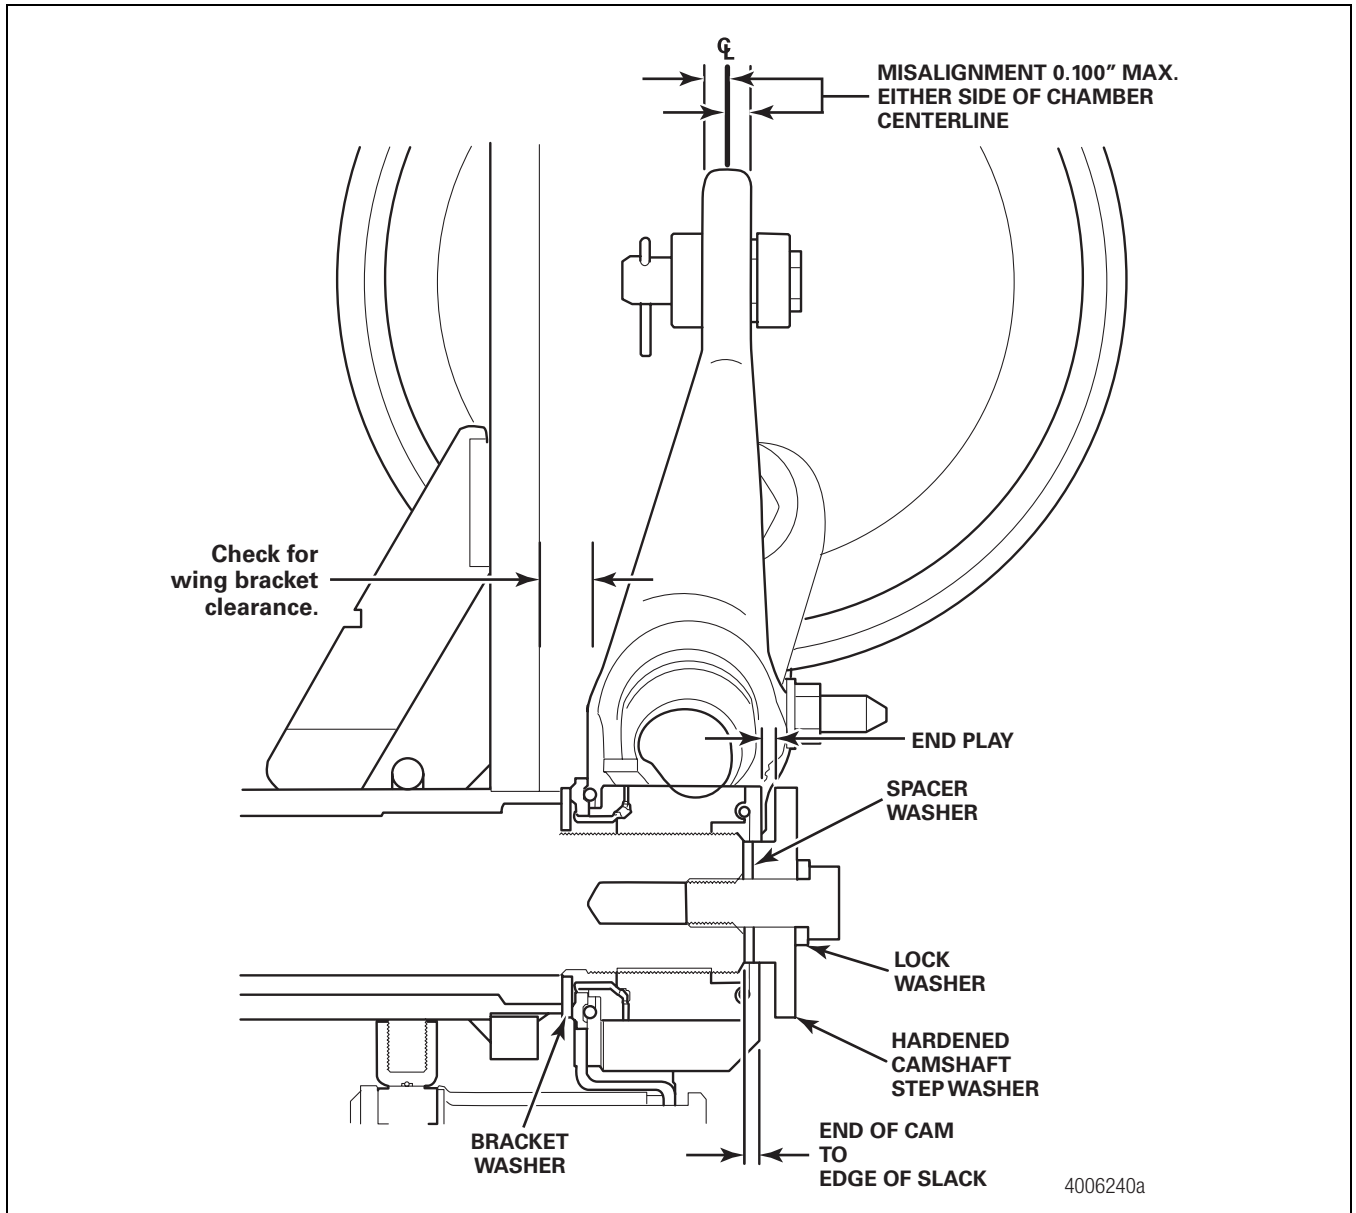

Figure 5.12
Refer to Figure 5.12 for measurement location and component description.
- Brake assembly check: Actuate brake by pulling on slack to assure cam and roller move freely and that shoes retract when slack is released. Figure 5.12.